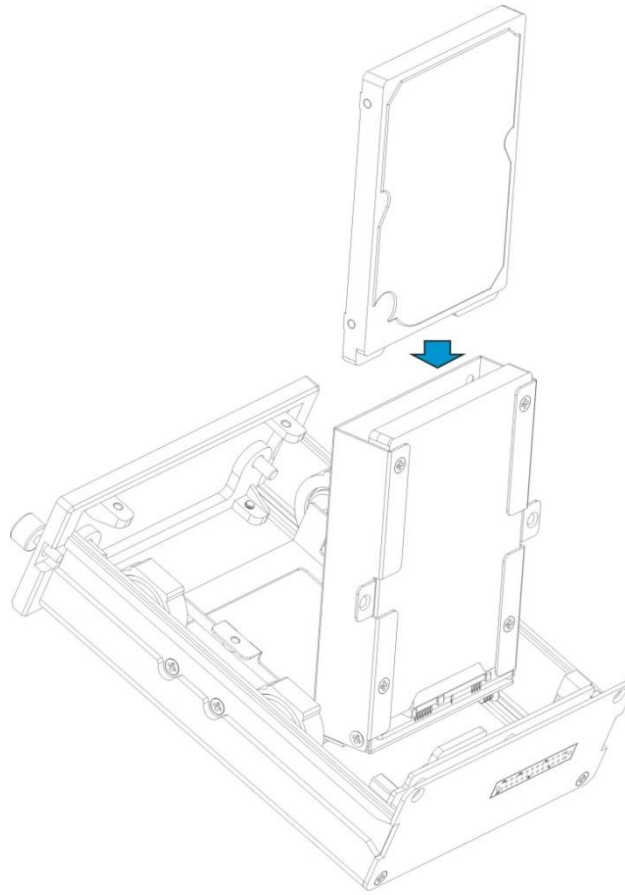

Figure 2-15
Step 5 Install the second HDD. Follow the arrow in Figure 2-15 to put the 2nd HDD to the HDD bracket. Line up the screw holes of the HDD to the HDD holes and then use the screws to secure the HDD firmly.